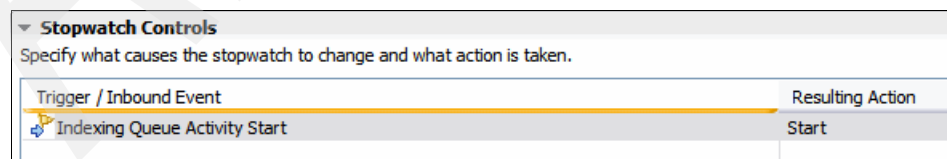

Figure 7-91 Stopwatch Controls - Result Action of Activity Start
5. Under Stopwatch Controls (Figure 7-91), for the Result Action of Activity Start, select **Start**.